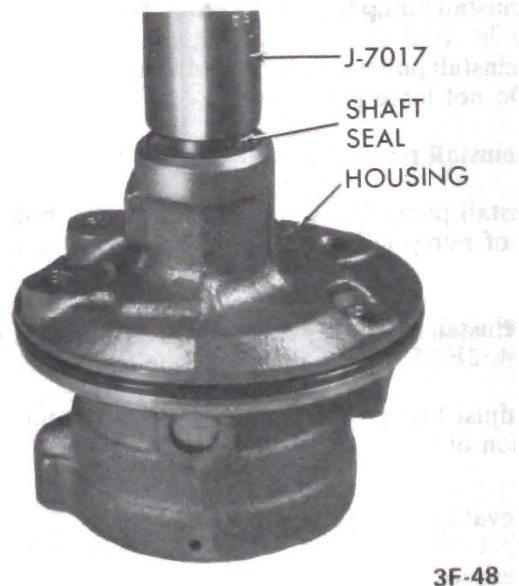

Figure 3F-44 - Installing Shaft Seal
2. If shaft seal was removed, use installer J-7017 to drive new seal into housing with spring side of seal toward housing. See Figure 3F-44. Just bottom seal in housing.